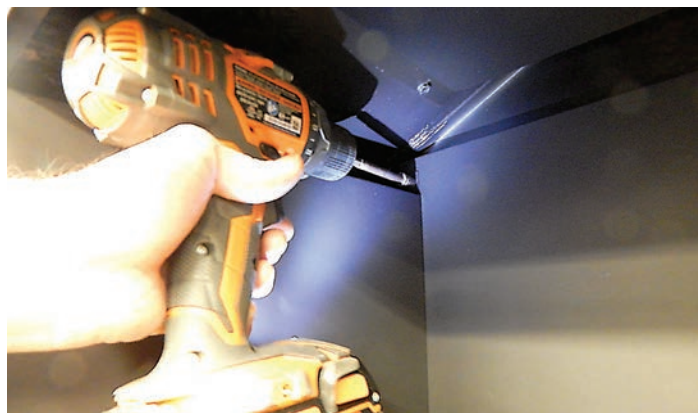

Figure 2
5. Remove the Left and Right Side Liners. **See Figure 2.** Remove (1) 5/16" X 1/2" Hex screw from each side panel located at the top rear corner of the side panel. Once the screw is removed, carefully grasp the top edge of the panel and work forward to release from the front retainer flange. Insulation is glued to the back of these liner panels and must not be removed.